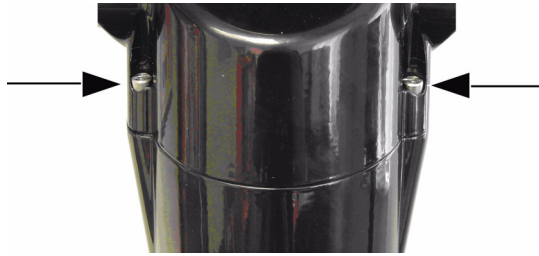

Figure 5.2 Pan body fixing screws
2. Locate and remove the two (2) pan body fixing screws (identified by arrows in *Figure 5.2* below). Once the screws have been loosened, lift them up and continue turning to lock the screws open. Ensure not to damage the paint work on the camera.